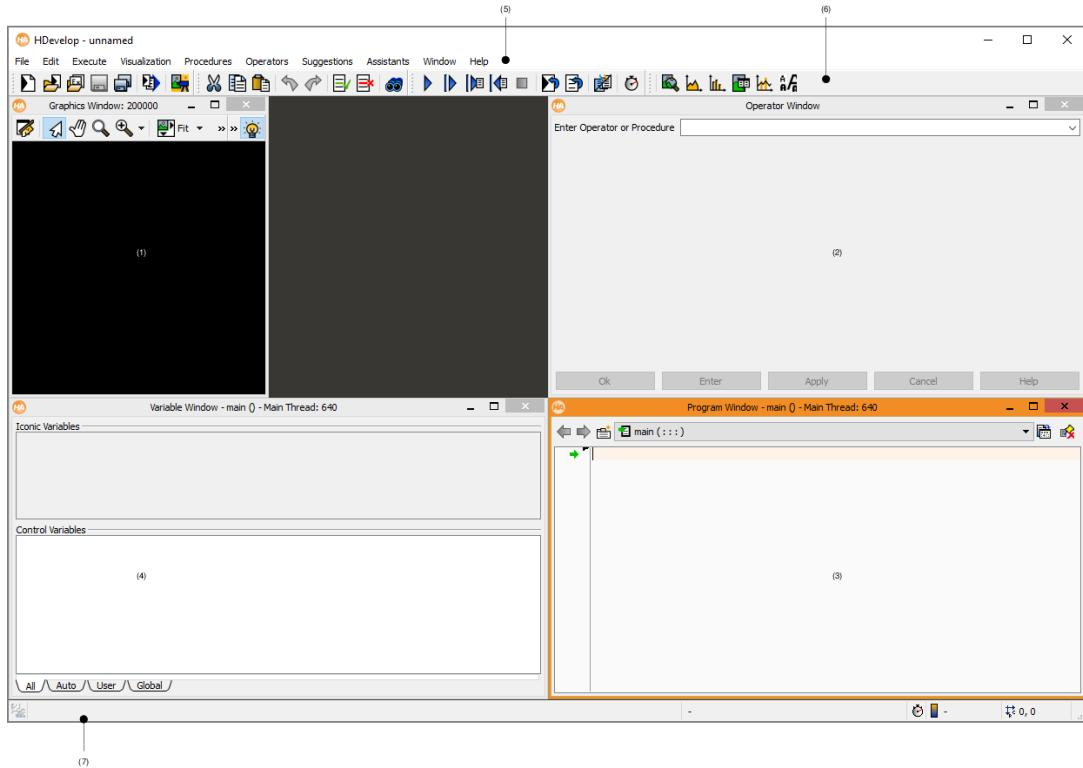

Figure 1.2: User interface: (1) graphics window, (2) operator window, (3) program window, (4) variable window, (5) menu, (6) toolbar, (7) status bar.
When HDevelop is started for the first time, it looks similar to figure 1.2. The main window offers a menu (5) and a toolbar (6) for quick access to frequently used functions. The status bar (7) at the bottom of the window displays messages and image properties. In addition, the following windows are available by default: